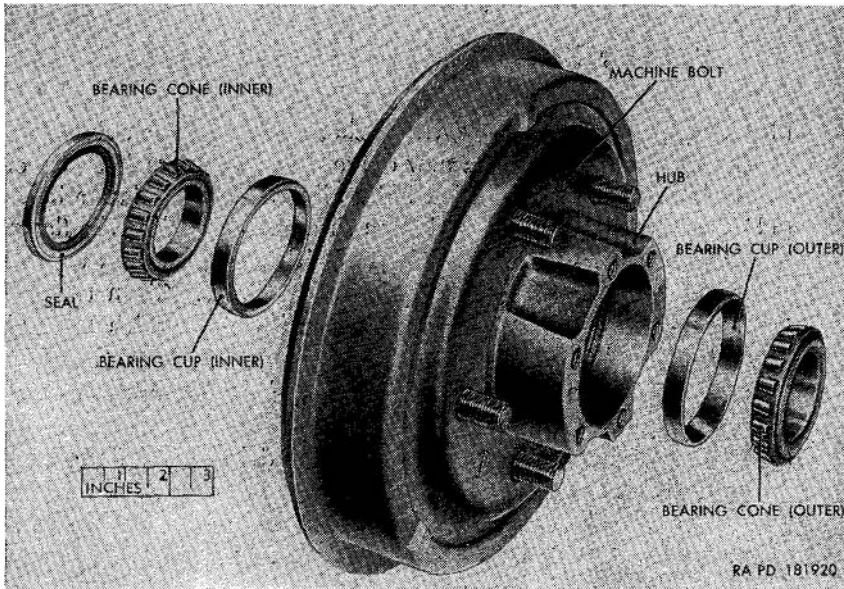
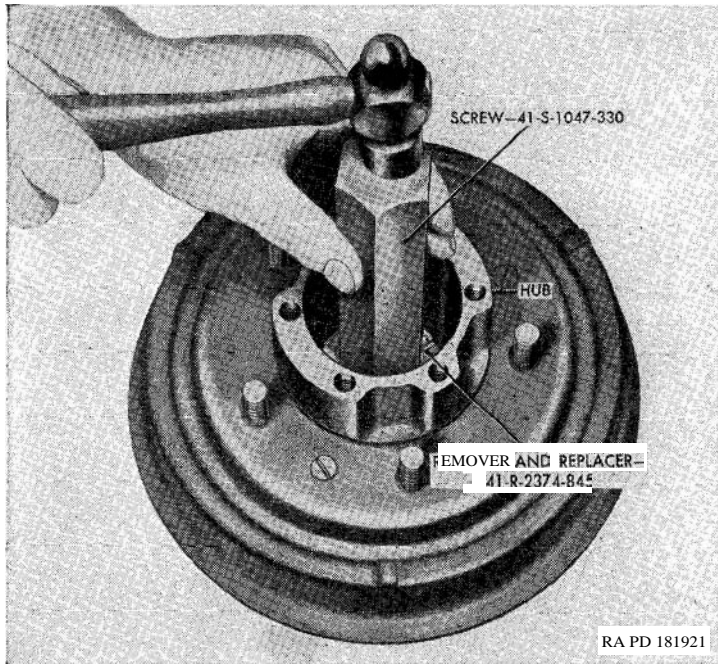

Figure 137. Front hub and drum, inner and outer bearing, and oil seal assemblies—exploded view.
Figure 138. Removing front hub bearing cup, using remover and replacer 41-R-2374-845 and screw 41-S-1047-330.
- (1) Follow the procedure described in paragraph 207a(1) through (7).
- (2) Using a brass drift, tap the hub (inner) bearing cone and hub bearing oil seal (fig. 137) out of the hub. Discard oil seal.
- (3) Install the remover and replacer 41-R-2374-845 and screw 41-S-1047-330 (fig. 138) in the hub bearing cup (inner) (fig. 137) and drive the cup out of the hub. Reverse the hub and, with the remover and replacer 41-R-2374-845 and screw 41-S-1047-330, drive the hub bearing cup (outer) from the hub.
- (1) Insert the small inside diameter end of the hub bearing cup (outer) (fig. 137) into the brake drum side of the hub. Place the remover and replacer 41-R-2374-845 and screw 41-S-1047-330 (fig. 138) in the hub and drive cup into position.
- (2) Insert the small inside diameter end of the hub bearing cup (inner) (fig. 137) into the brake assembly side of the hub. Place the remover and replacer 41-R-2374-845 and screw
41—S-1047-330 (fig. 138) in the hub and drive cup into position.
- (3) With the small end of the bearing cone taper toward the brake drum, insert the hub bearing cone (inner) (fig. 137) into the hub.
- (4) Place a new hub bearing oil seal in the brake assembly side of the hub, with the lip of the seal facing the cone. With a soft mallet, tap on the seal until it is flush with the hub.